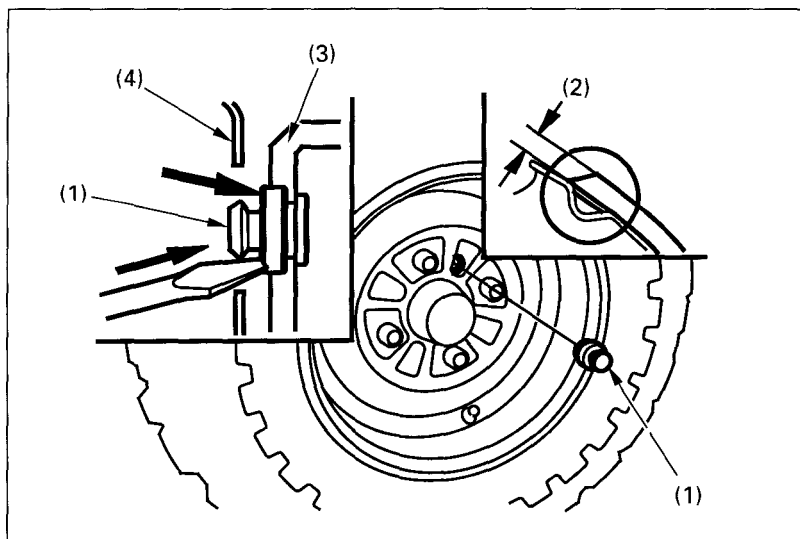
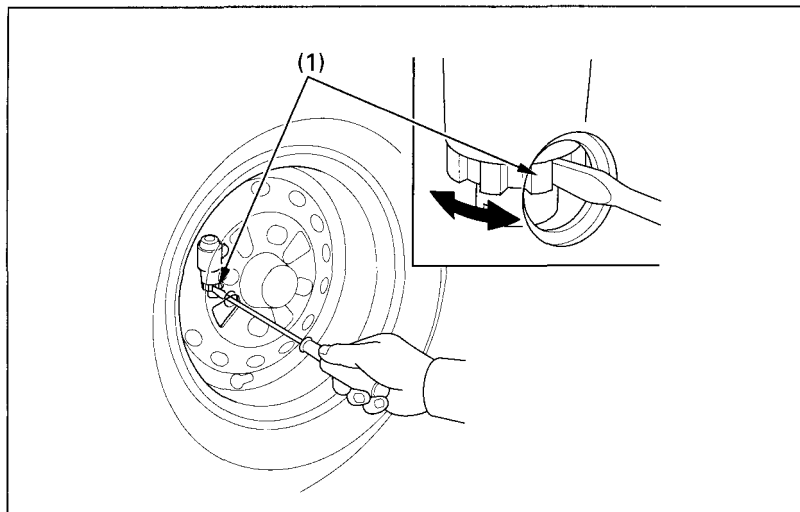

Fig. 4-25 (1) Inspection hole plug (3) Front brake drum
Fig. 4-26
(1) Front brake lever
2. Remove the inspection hole plug (Fig. 4-25) and measure the lining thickness (2) on both front wheels.
3. If the brake lever free play and the brake shoe lining thicknesses are within the recommended limits, reinstall the inspection hole plugs, seating them into the inspection holes as shown in Fig. 4-25.
3. Beginning with either the left or right front wheel, remove the inspection hole plug (Fig. 4-25) and line up the hole with one of the brake adjusters (Fig. 4-26).
4. Using a screwdriver, turn the brake shoe adjuster (1) in the direction of the arrow until the front brake locks.
(1) Brake adjusters
7. Reinstall the inspection hole plug, seating it into the inspection hole as shown in Fig. 4-25.